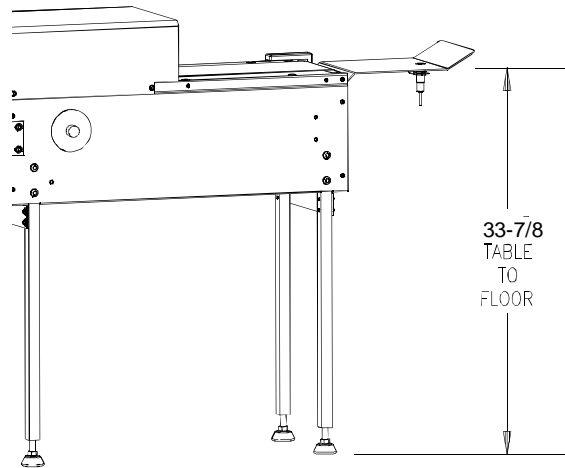

Figure 2-12. Exit Conveyor Leveling
1. Make sure the exit conveyor's leveling pads are set to 33-7/8" as shown in Figure 2-12. Adjust as necessary.